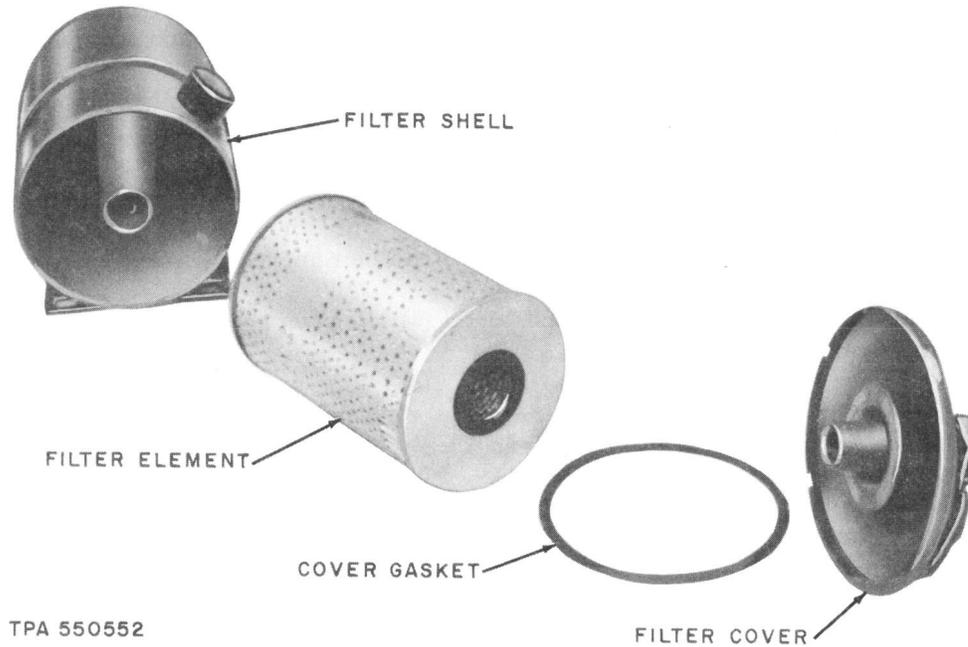

Fig. 5—Governor Filter Lube Oil Reservoir
- (1) Remove the drain plug from the bottom of the filter shell and drain the oil.
- (2) Disconnect the oil by-pass line from the top of the filter cover.
- (3) Loosen the filter cover bolt counterclockwise until the bolt and the filter cover assembly can be removed. Discard the cover gasket.
- (4) Remove and discard the filter element.
- (5) Wipe out the filter shell and cover. Install a new filter element over the center stud.
- (6) Using a new cover gasket, place the cover assembly on the shell.
- (7) Install the drain plug at the bottom of the filter shell.
- (8) Fill shell approximately 3/4 full of engine lube oil.
- (9) Tighten the cover bolt carefully to prevent damage to the gasket.
- (10) Connect the oil by-pass line to the cover bolt.
- (11) Start the engine and check all connections for oil leaks. If leaks occur, tighten as necessary. See Fig. 5.♦